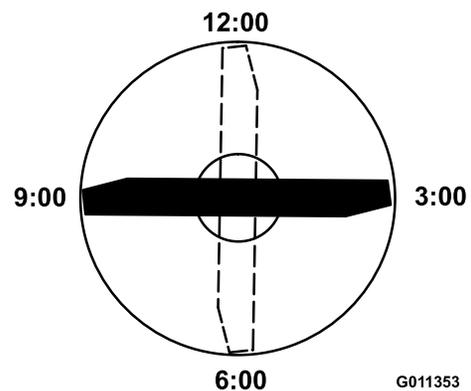

Figure 81
4. Position the cutting edge of the marked end of the blade at 12 o'clock (straight ahead in the direction of mowing) (Figure 81) and measure height from table to cutting edge of blade.
- Rotate the marked end of the blade to the 3 and 9 o'clock positions (Figure 81) and measure the heights.